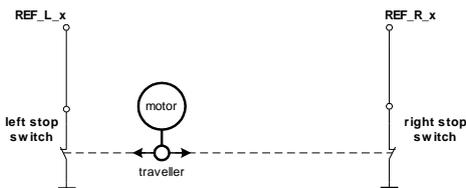
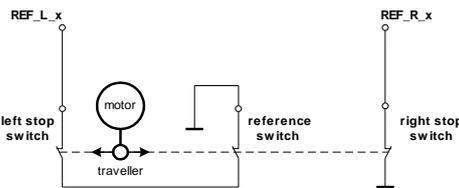

Figure 6.2: Two limit switches
Figure 6.3: Limit switches with extra reference switch
- In Figure 6.2 the connection of the left and the right limit switch is shown. Figure 6.3 shows the connection of three switches as left and right limit switch and a reference switch for the reference point. The reference switch is connected in series with the left limit switch. The differentiation between the left limit switch and the reference switch is made through software. Switches with open contacts (normally closed) are used.